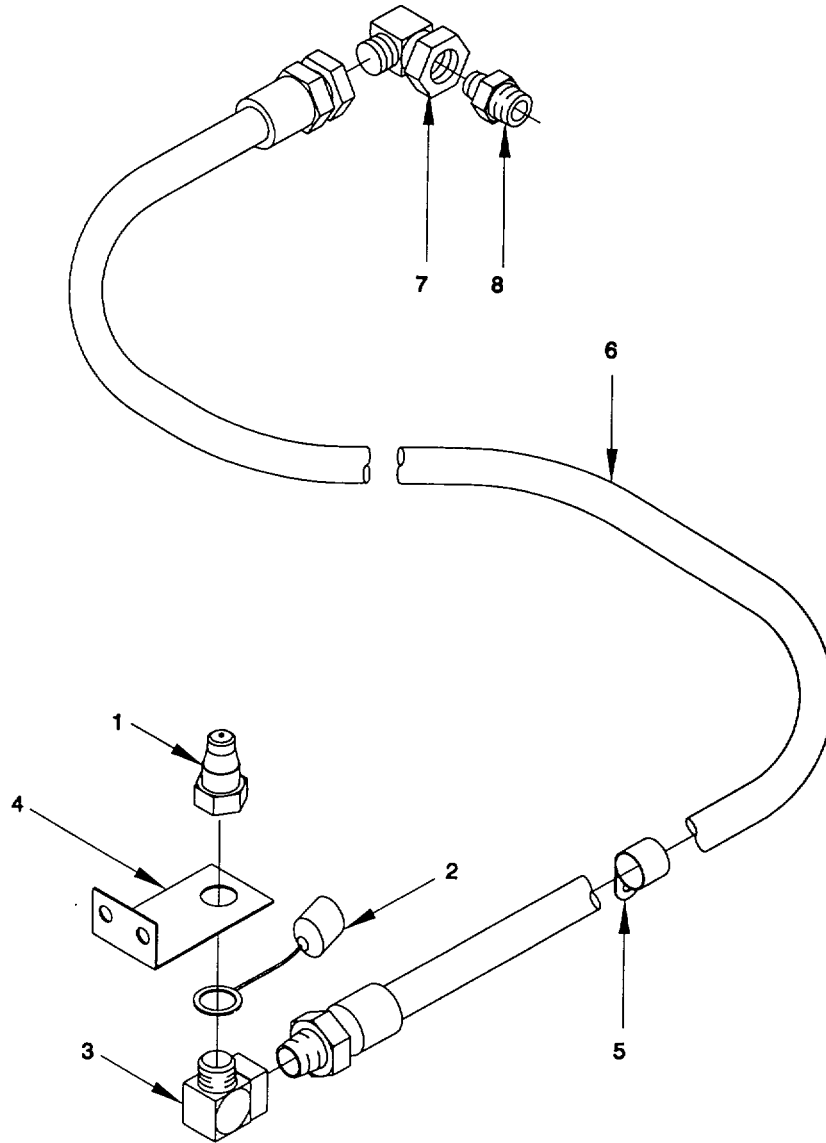

Figure 2-15. Fast Lube System, Repair
- (1) Inspect for wear, damage and leaks. Verify that fittings are tight.
- (2) Correct deficiencies. Repair is limited to replacement of parts as required.
- c. Repair. (figure 2-15)
- (1) Pull off dust cap (2) from half coupling (1). Unscrew half coupling (1) from 90° adaptor (3).
- (2) Remove dust cap (2) and 90° adaptor (3) from bracket (4).
- (3) Remove hose clamp (5) and unscrew hose assembly (6) from attaching hardware.
- (4) Remove 90° swivel fitting (7) from straight fitting (8), then straight fitting (8) from oil pan.
- (5) Attach straight fitting (8) to oil pan and 90° swivel fitting (7) to straight fitting (8).
- (6) Attach new hose assembly (6) to 90° swivel fitting (7) and to the 907 adaptor (2).
- (7) Attach hose clamp (5) to hose assembly (6).
- (8) Position 90° adaptor (3) and dust cap (2) in hole in bracket (4).